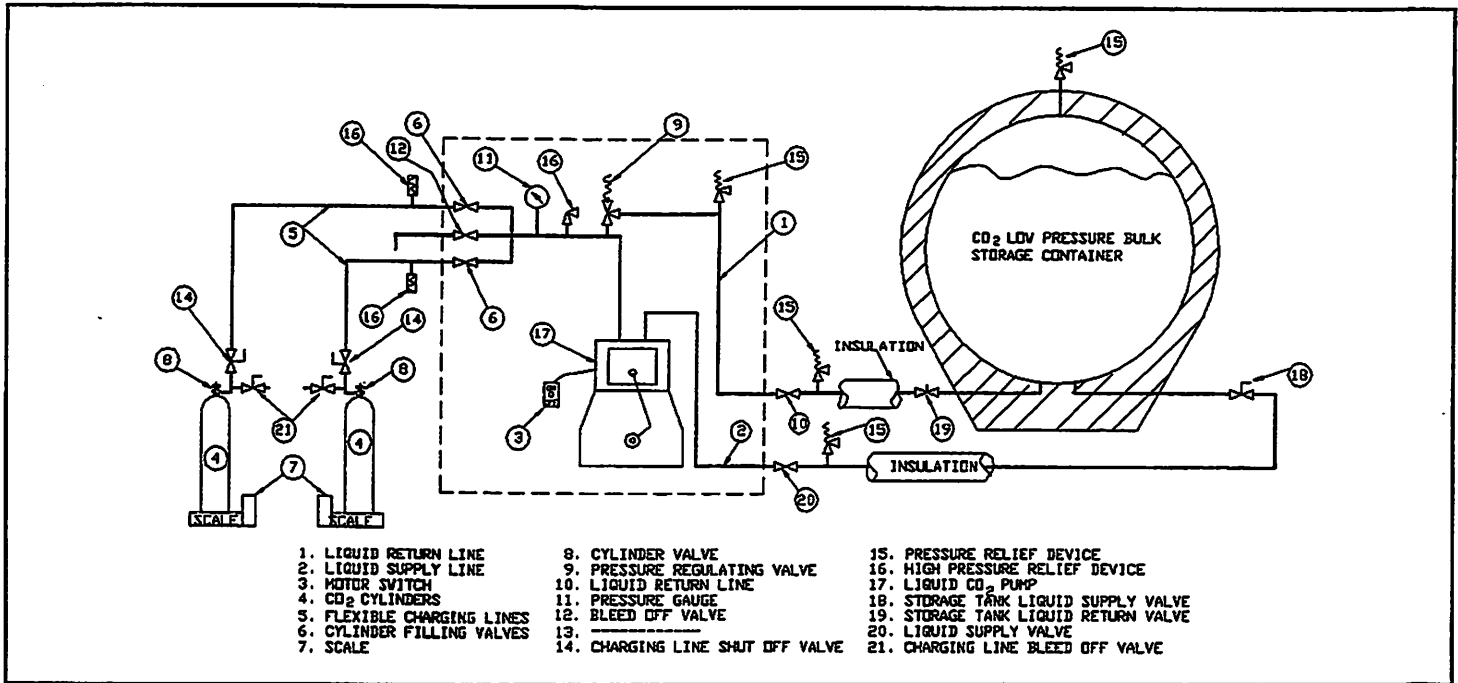

Fig. 2.2 Typical CO2 Cylinder Filling System Schematic
2-7 GENERAL. The charging lines and valving used between the cylinder filling unit and the cylinders being filled may vary. Figure 2-2 illustrates the recommended valving on the charging lines.
2-10. OPERATING PROCEDURE. Open the storage tank liquid valve(s) (18&20. figure 2-2). This will pressurize the pump (17) through the inlet valve, the pressure regulating valve (9), the cylinder filling valves (6) and bleedoff valve (12).
2-11. With the handle of the pressure regulating valve (9, figure 2-1) raised, open the return valve(s), to the storage unit, and open the storage tank vapor valve (10,19 figure 2-2). All carbon dioxide circulated through the pump will now return to the storage tank until the regulator valve handle is lowered and a pressure adjustment is made. The entire cylinder filling unit is now at storage tank pressure.
2-15. FILLING A SINGLE HIGH PRESSURE CYLINDER. Open the appropriate cylinder filling valve (6, figure 2-2), charging line shutoff valve (14) and cylinder valve (8).
2-19. See figure 2-2 for reference to cylinders A, B, and C discussed in the following paragraphs. The following procedure should be adhered to when filling cylinders alternately. With cylinders A and B attached to the flexible charging lines and the operating instructions in paragraphs 2-10 through 2-14 performed, open the cylinder filling valve (6), charging line shutoff valve (14) and cylinder valve (3) to cylinder A.
2-24. Figure 2-3 illustrates the appearance and location of the components referenced in the preceding operational text to figure 2-2.